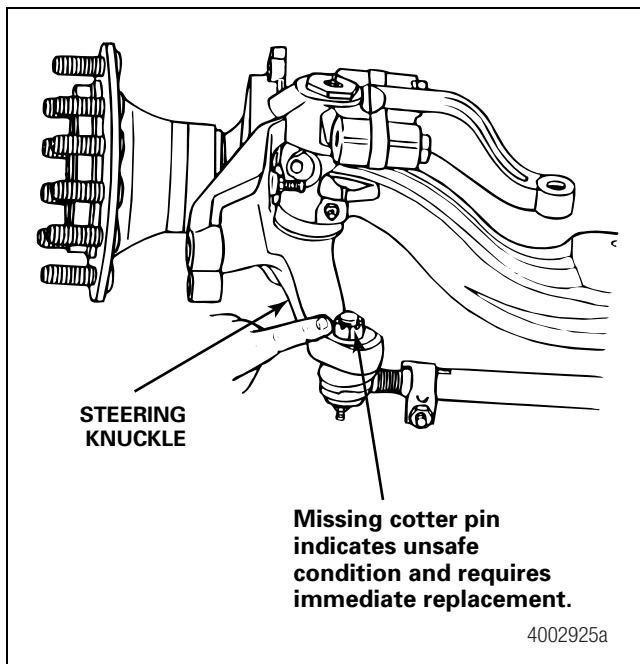

Figure 3.4
- **If the cotter pin is missing:** Tighten the tie rod end nut to the correct specification. Install a new cotter pin. Always tighten the tie rod end nut to the specified torque when setting the cotter pin. Refer to Section 8. Do not back-off the nut to insert the cotter pin. Figure 3.4.